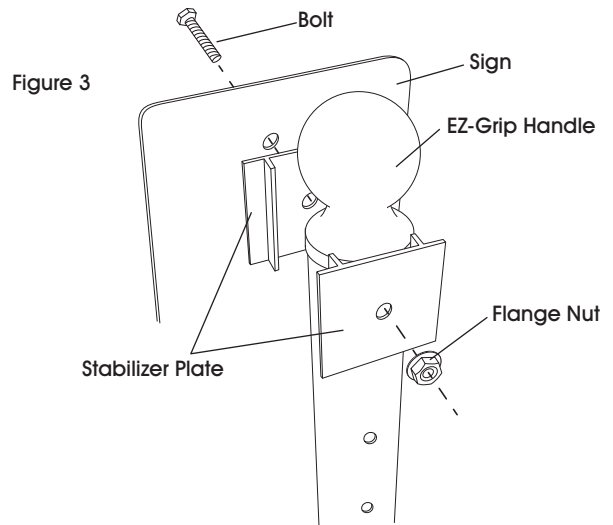

Figure 3
- Partially insert the EZ-Grip handle into the top of the sign pole. (See Figure 3) Most signs require the handle to be inserted all the way.
- Attach the top of the sign to the top hole in the sign pole using the hardware provided. Make sure to place the stabilizer plate between the back of the sign and pole, with the flat side facing the sign and the rails running along the length of the sign pole. (See Figure 3)